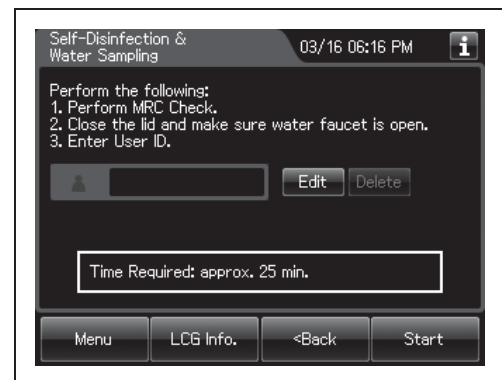

Figure 7.66
- 4 Press the “Next” button repeatedly until the touch screen display changes as shown Figure 7.66.